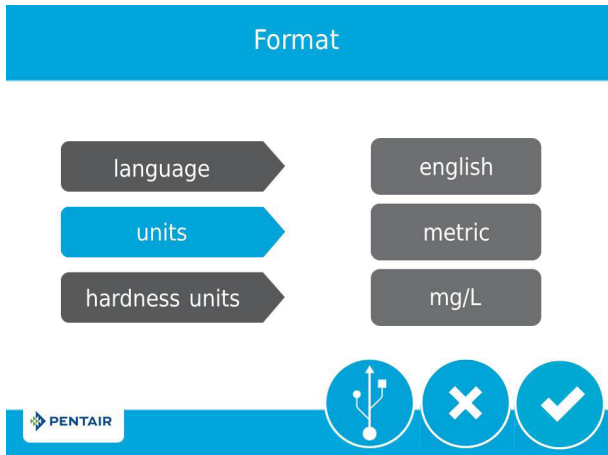

Figure 4: Format Screen
1. After plugging in the unit, the Format screen (Figure 4) is displayed.